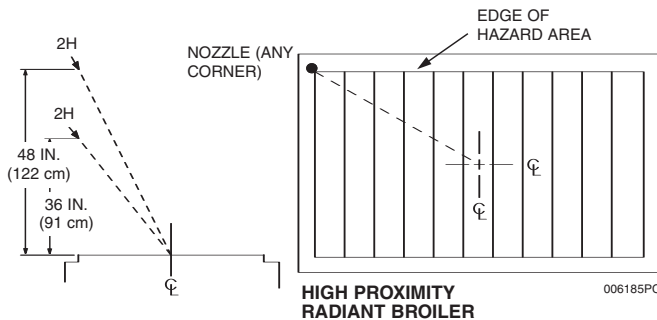

Figure 3-11.
The 2H nozzle, Part No. 551028, is used for high proximity radiant char-broiler protection. This nozzle is a two (2) flow nozzle. The nozzle must be located **above any corner** of the hazard surface, 36 in. to 48 in. (91 to 122 cm) above the cooking surface of the appliance and aimed at the center of the broiler surface. See **Figure 3-11**.